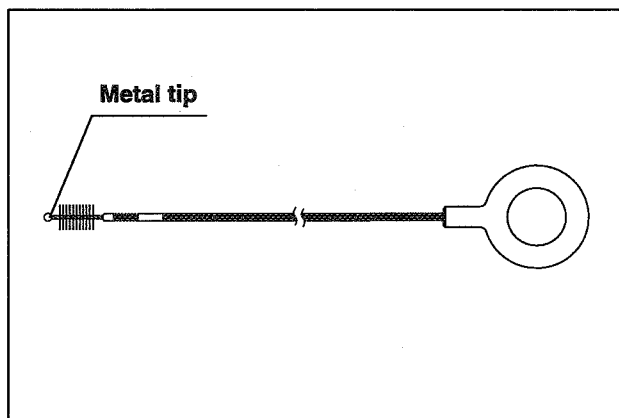

Figure 3.6
The channel cleaning brush is used to brush the inside of the instrument/suction channels and the holes in the air/water and suction valves (see Figure 3.6).
1. Confirm that the brush section and the metal tip at the distal end are securely in place. Check for loose or missing bristles (see Figure 3.6).